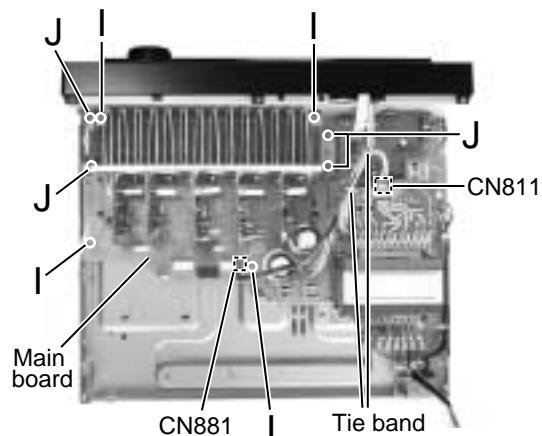

Fig.14
■Removing the main board (See Fig.14)